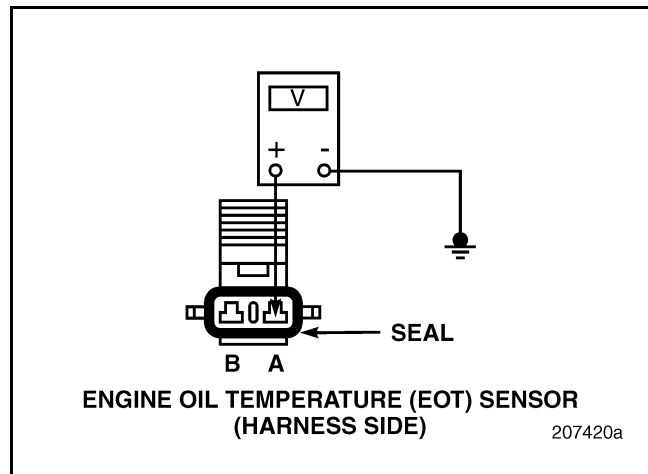

Figure 289
5. Measure the voltage between pin A of the EOT Sensor harness connector and a good ground (see Figure 289).